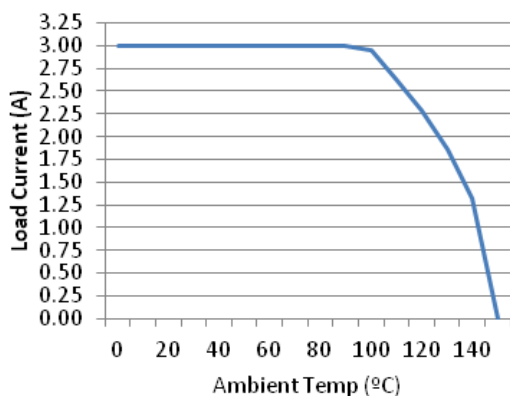
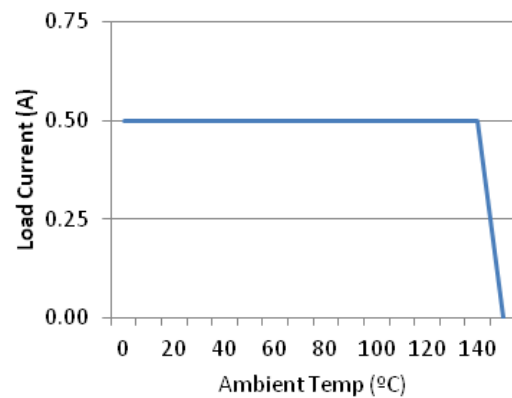

Figure 8. Q1 SOA at VGS_Q1=-4.5V
Figure 13. Q1 SOA at VGS_Q1=-1.2V
- T_{J-max} limits and other related conditions apply. Refer to SOA charts, Figure 8 through Figure 13